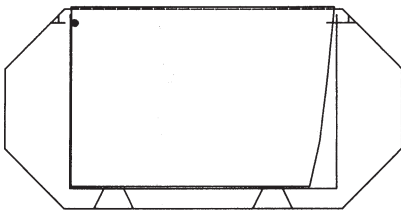

Fig. 6
- Is not positioned on the screw of the point of rotation (Fig. 6) when using movable joints.